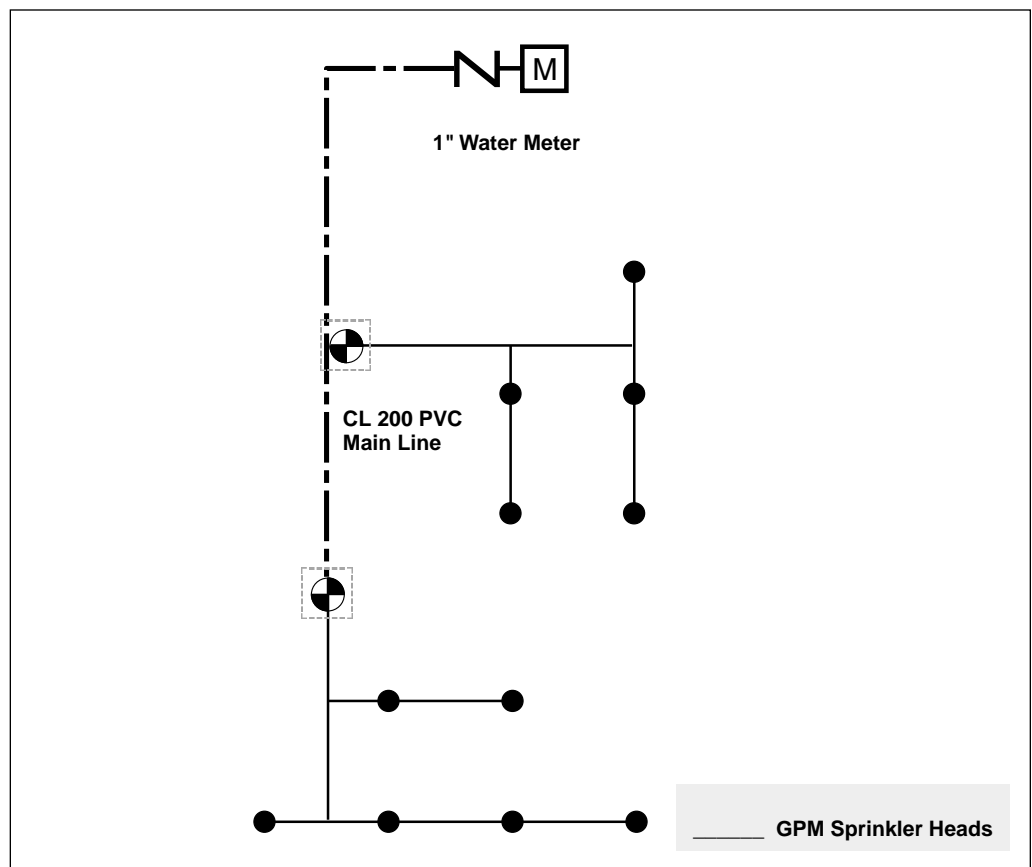

FIGURE 5.2
4. Size the lateral line pipes, main line pipe and remote control valves in Figure 5.2 below.